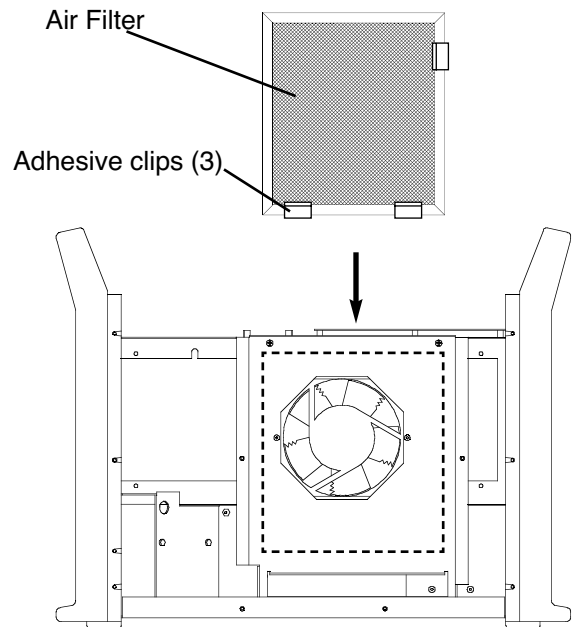

Figure 2 Air Filter Installation
4. Use cleaning alcohol to remove any dirt, oil, etc. from the fan bracket area (indicated by dotted lines in Fig. 2). If the fan bracket is not clean, the adhesive clips may not remain fastened to it.
5. Slide the air filter (002273) into the adhesive clips (008833) with the wire mesh facing the rear of the clips – Fig. 2.
7. Center the filter over the fan bracket approximately as shown in Fig. 2 and push the filter into place.